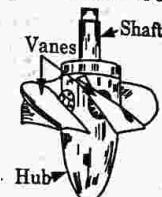

Fig. 5.16.1. Kaplan turbine runner.
5. Fig. 5.16.1 shows the runner of a Kaplan turbine which consists of a hub fixed to the shaft. On the hub, the adjustable vanes are fixed.